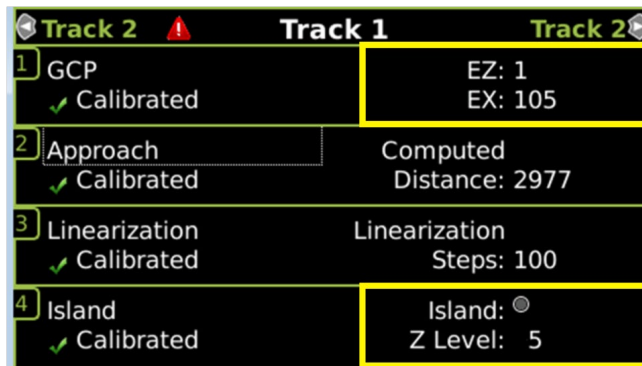

Figure 11 Island Calibration Window
Step 2	Following railroad policies concerning the use of jumper wires. Place a jumper wire across the RCV1 and RCV2 receiver wires at the main terminal board and verify the EZ value is less than or equal to 5. If the EZ value is greater than 5 and the jumper is confirmed to be securely connected, use additional jumper wires in parallel until an EZ less than or equal to 5 is achieved. The crossing should activate. Note the Island Z value. See Figure 11.